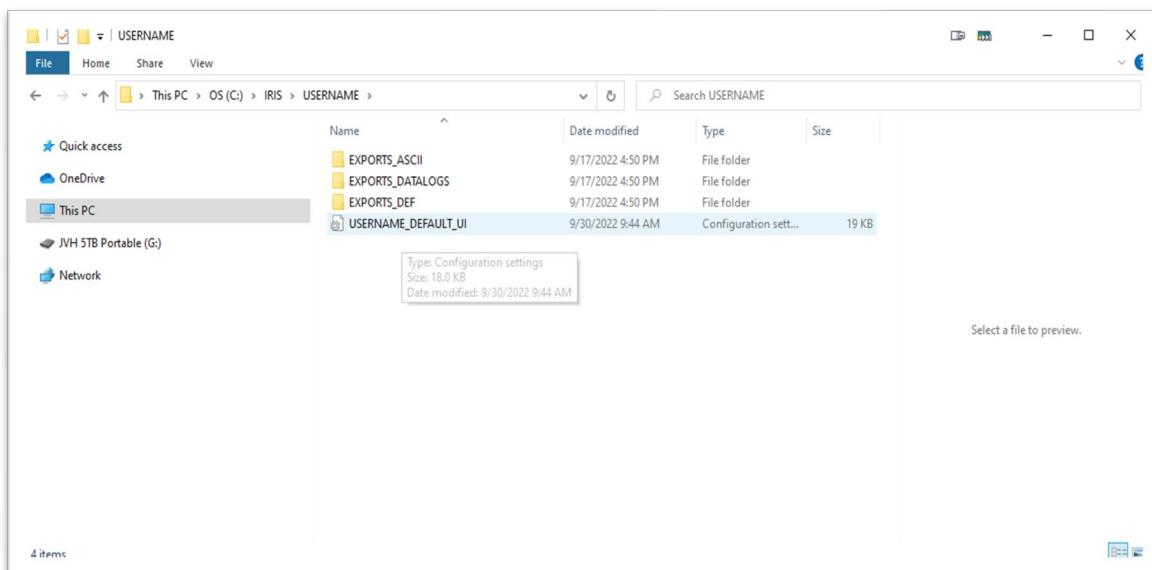

Figure 2. iRIS subfolder creation
4. The installer will create the following subfolders: See *Figure 2*: